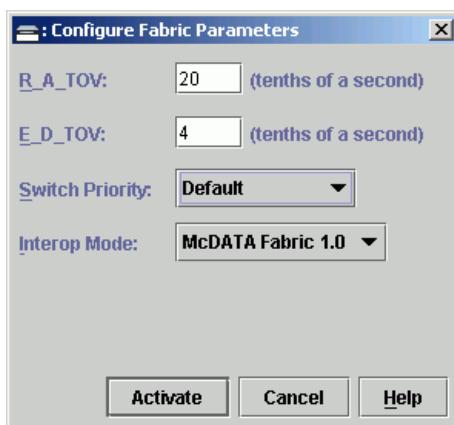

Figure 2-86 Configure Fabric Parameters Dialog Box
2. At the *Hardware View*, select *Operating Parameters*, then *Fabric Parameters* from the *Configure* menu. The *Configure Fabric Parameters* dialog box displays (Figure 2-86).